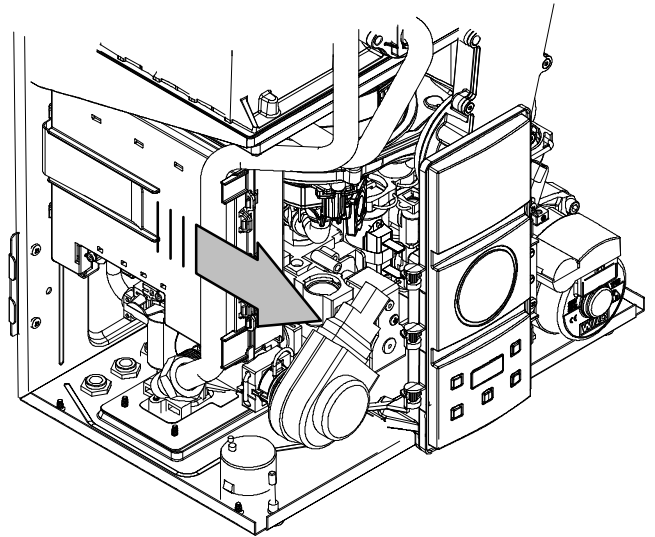

Fig. 2.7
- 5 Pull the box that contains the electronic p.c.b. and rotate it (Fig. 2.7).